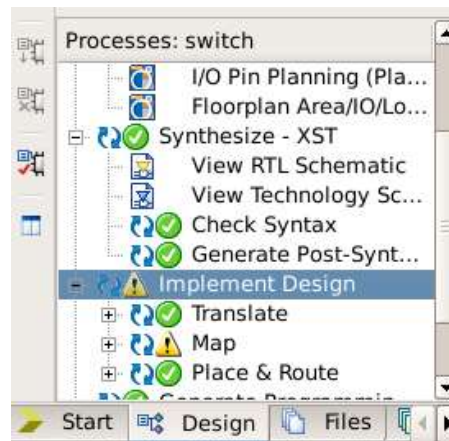

Fig 1.29: Implementation successful
31. After writing the UCF, we will proceed with the **Implement Design** step. Design implementation is the process of translating, mapping, placing, routing, and generating a bit file for the design. For this right click on **Implement Design** and select **Run**. If the design is implemented successfully then green check will appear near the Translate, Map and Place & Route process as shown in Fig1.29